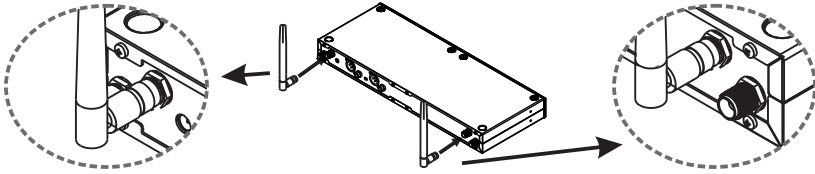

Fig. 4
(A) Install supplied 5.8 GHz receiver TNC antenna A & B at TNC Antenna Connector ❶ . Fig. 4